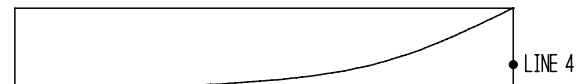

FIG. 5
Step 2. Delete Lines 1 through 4, **Fig. 5**. Use **CTRL-Q** to delete the line.